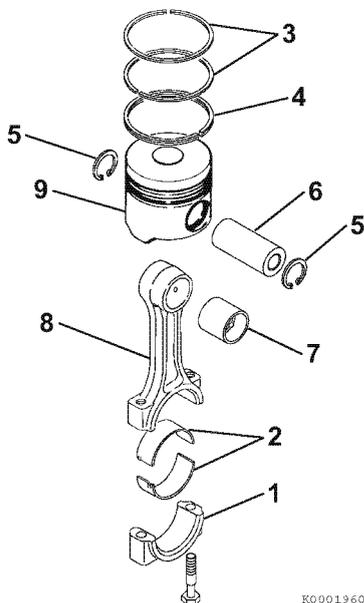

Figure 6-90
2. If removed, install a new wrist pin bushing (7, **Figure 6-90**) using a press and the appropriate service tool. Be sure to align the oil holes.
3. Reinstall one circlip (5, **Figure 6-90**) into the piston. Ensure the circlip is securely seated in the groove.